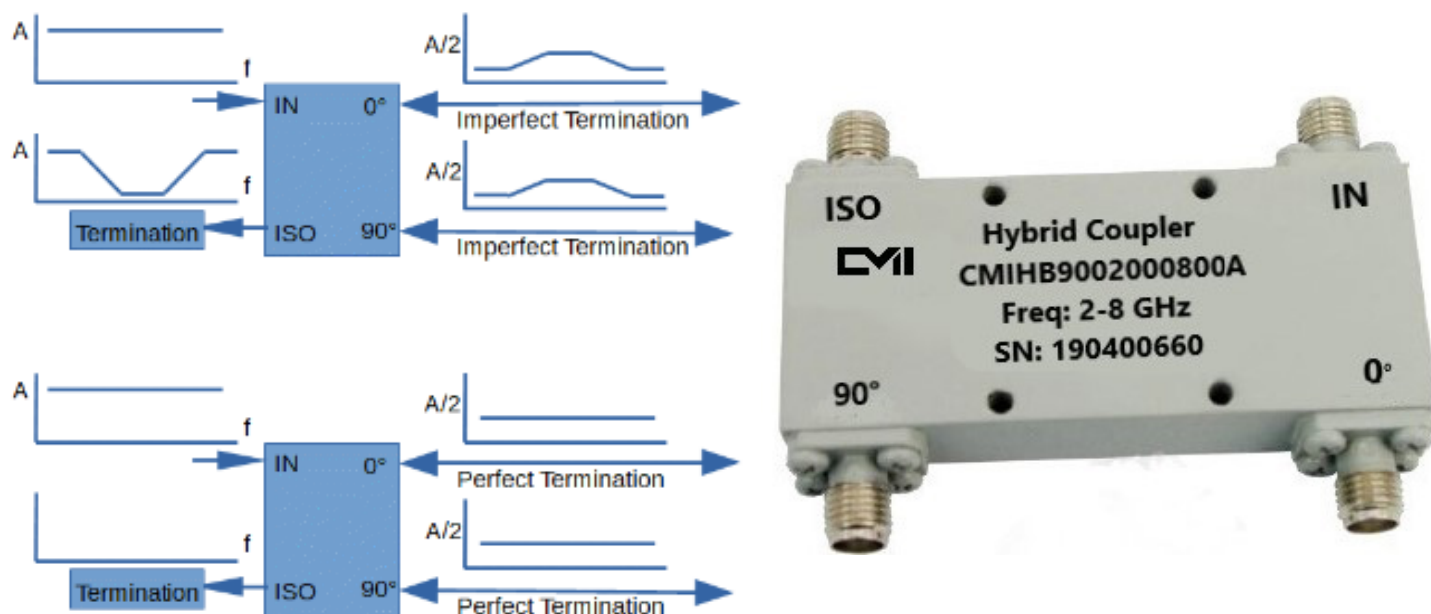

Fig. 5 – (L) Technical sketch of two 90-degree hybrid couplers; **(R)** Example of a 90-degree hybrid coupler
For example, the top of Fig. 5 (L) shows the transmitted and reflected signals that occur if identical bandpass filters are attached to the two split ports. The in-band signal is split and passed through each filter. Energy outside the passband is reflected back to the isolation resistor. Input return loss is good across the bandwidth of the Hybrid even though the out-of-band signals are not passed on.
The bottom of Fig. 5 (L) shows that little energy, dependent upon the hybrid coupler's isolation specification, is reflected back to the isolation port if the split ports are properly terminated across the band.
Additionally, 90-degree hybrid couplers are very good at isolating the devices from load mismatches. A good example of this practice's usefulness can be demonstrated by imagining that Fig. 5's bandpass filters are actually identical power amplifiers. An RF source can achieve increased amplification by splitting the signal to two amplifiers and then recombining the amplified signals using another hybrid coupler, all while maintaining good return loss.